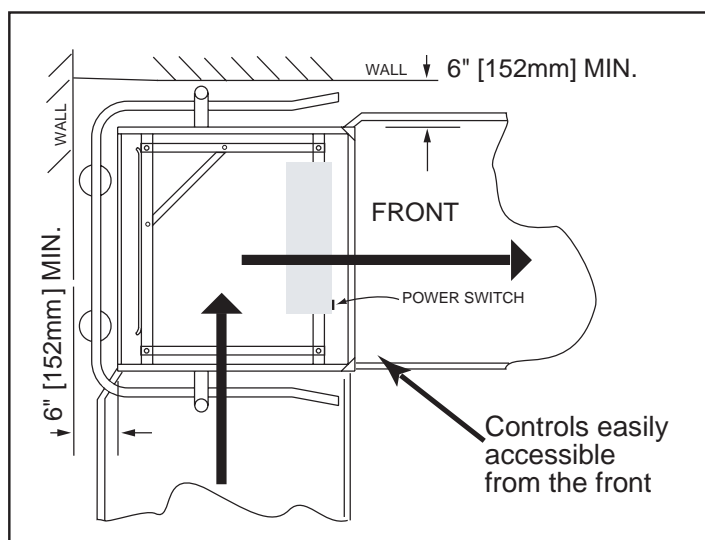

Figure 1
- 4 Refer to Fig. 1 at the right. Note the orientation of the machine for corner installation. Note the controls must be accessible from the front. Plan your relocation accordingly.